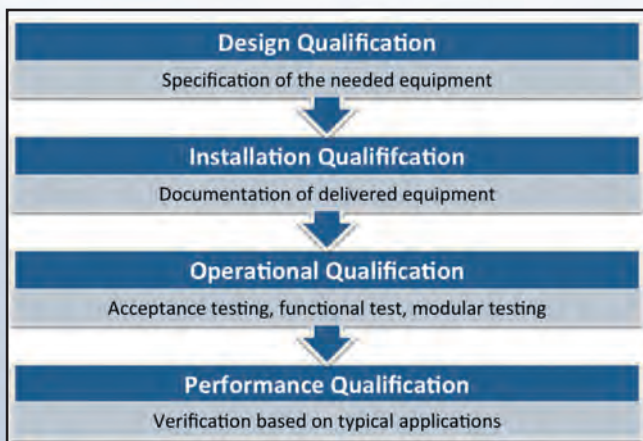

Figure 1: 4Q-Model according to USP 1058
The 4Q-Modell (Figure 1) describes and regulates the gradual approach of all steps of the qualification process. The process starts with the design qualification (DQ) where the user compares the requirements of the analytical method with the specification of the instrument manufacturer. Next, if the customer has ordered the optimal equipment it must be installed with a short operation check and the shipment with all options must be compared with the order. With an installation qualification (IQ), the status of all installed modules is fully documented and a simple analysis of a standard sample will be done, but no detailed evaluation of the analysis data is done.